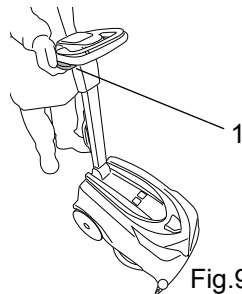

Fig.9
Pull the adjustment lever (fig. 9, ref. 1) and hold, then set the handle at the desired angle. Releasing the lever, the handle will remain locked in the position selected.